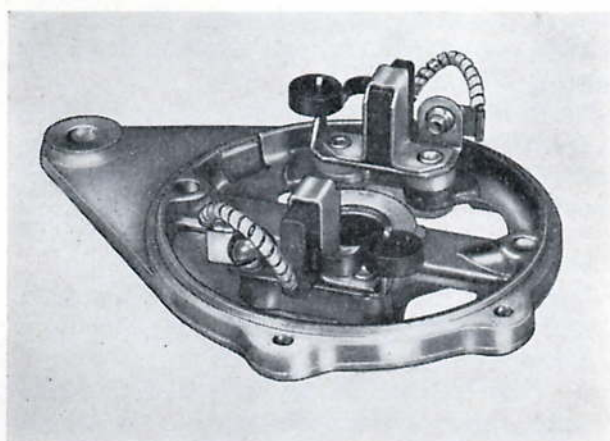

Fig. P.21. Correct location of brush lead and tag. The brushes are wedged in the retracted position by the springs, prior to installing the end bracket
(b) When renewing brushes, place the shake-proof washer between the brush lead tag and the brush holder, and locate the lead and tag as shown in Fig. P.21 before tightening the tag screw.
4. Pull back the brush springs and raise the brushes, wedging them in the retracted position by deflecting the springs to one side of each brush (Fig. P.21 on page P-10).